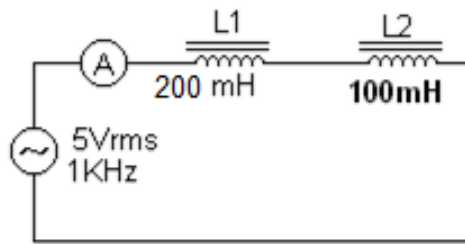

Figure 5
8. Connect the circuit as shown in Fig.5.